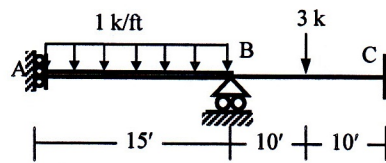

Fig. 2
2. Use Stiffness Method (neglecting axial deformations) to calculate the joint deflection and rotation of the beam shown in *Fig. 2* [Given: $EI_{AB} = 40 \times 10^3 \text{ k-ft}^2$, $EI_{CD} = 20 \times 10^3 \text{ k-ft}^2$].
11. For the beam shown in *Fig. 2*, calculate the approximate first natural frequency in transverse direction using consistent mass matrices [Given, $EI = 54 \times 10^3$ k-ft², $m = 0.0045$ k-sec²/ft²].
11. For the beam shown in *Fig. 2*, calculate the approximate first natural frequency in transverse direction using consistent mass matrices [Given: $EI = 54 \times 10^3$ k-ft², $m = 0.0045$ k-sec²/ft²].